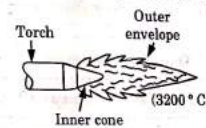

Fig. 4.5.2. Neutral flame.
- The neutral flame, as shown in Fig. 4.5.2 has the following two sharply defined zones :